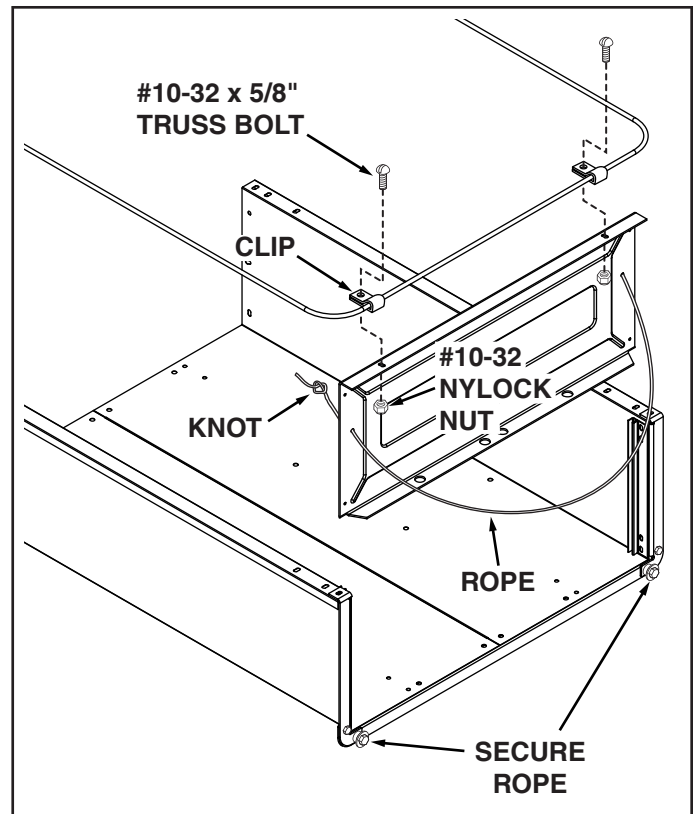

FIGURE 13
- Slide each end of the rope through the holes in the tailgate shown in figure 13.
- Attach clips to bottom lower support rod and fasten them to the tailgate using two #10 x 5/8" slotted head bolts and #10 nuts. See figure 13.
- Secure tailgate rope around the bolts shown in figure 13. If rope does not keep tailgate held down or rope is too short to secure around bolts, move the knot up the end of the rope to loosen or down to tighten. Once knot is in desired location, tighten the knot to secure it in place.